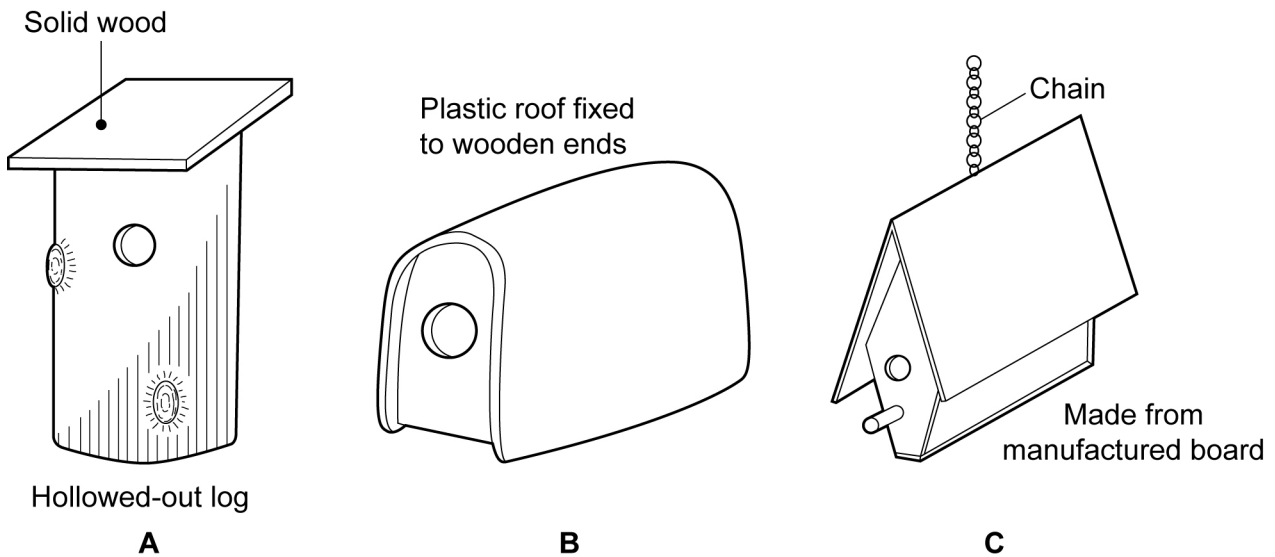

Fig. 4
- 4 A range of bird box designs is shown in Fig. 4.